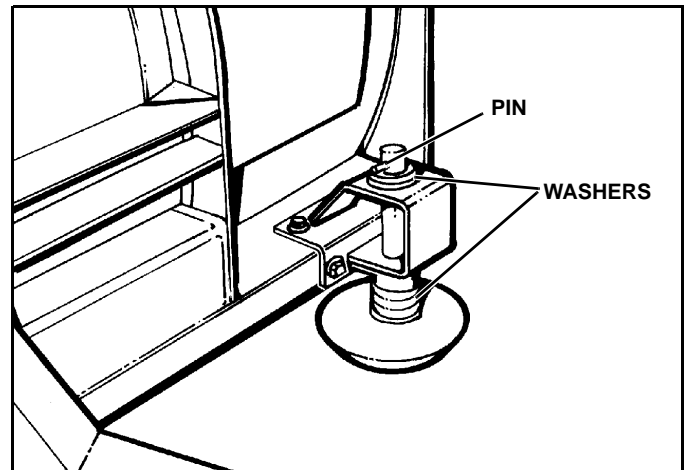

Figure 3-2
14. Adjust each Disk Shoe assembly by removing Disk Shoe mounting Pin and adding or subtracting Washers on the top or bottom of the Disk Shoe Mounting Bracket as required according to measurements taken in step #11 (See Figure 3-2)